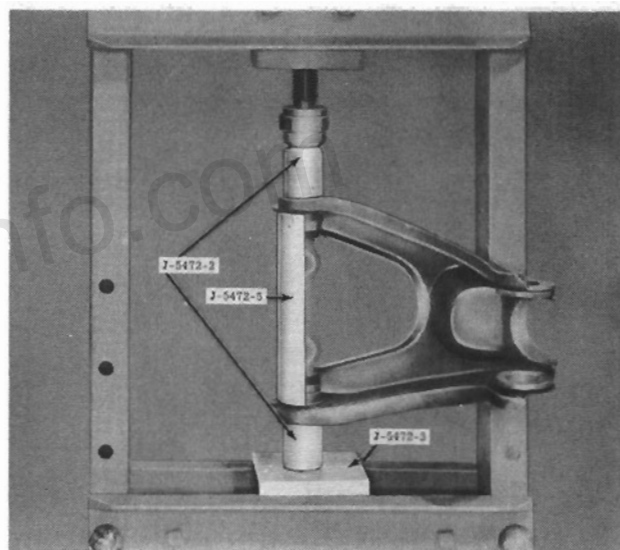

FIG. 15
Insert one end of the inner shaft in one member of the control arm, push in as far as possible, swing the opposite end into position, and insert it in the other member of the arm. Then place the J-5472-5 Small Spacer between the ends of the control arm (see Fig. 15). Start the rubber bushing in the hole at either end of the control arm. Place a J-5472-2 Small Installer in position on each bushing and, using an arbor press, force the bushings in place until the shoulder on the outer sleeve of the bushing is seated on the control arm. Do not attempt to seat the flange of the bushing on the control arm. Install the bushing cap (4, Fig. 12), washer (5), lock washer (6), and screw (7). After the control arm has been installed in the car and the weight of the car is on the springs, tighten the cap screws to 35 ft-lbs (4.8 kg-m) torque.